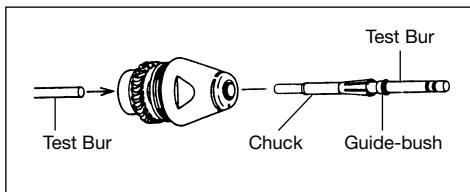

Fig.12
- ③ When the rotor nut is loose. Push out the chuck carefully with a dummy bur or the shank of bur from the back of the cartridge, the Guide-bush and the chuck will come out. (Fig.12)